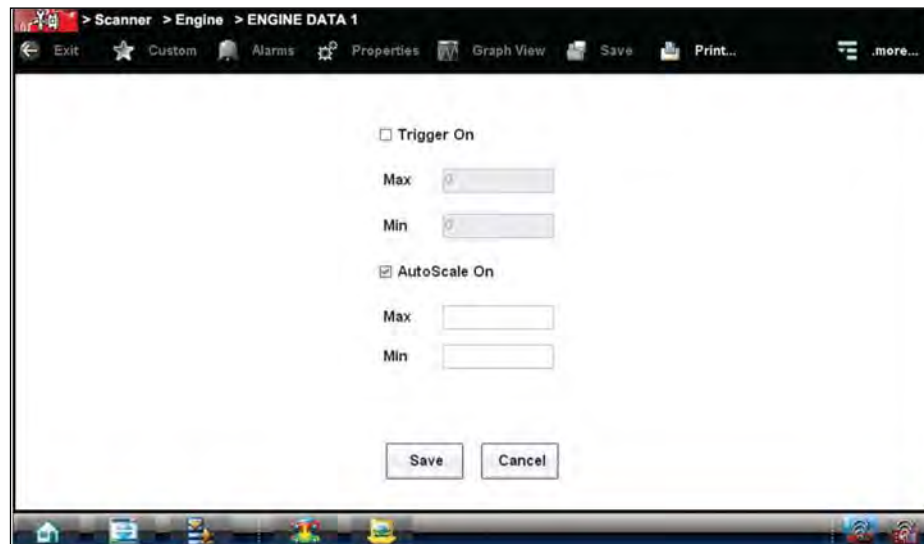

Figure 4-29 Sample manual scale selection
2. From the Graph Properties dialog box (Figure 4-29), select **Auto Scale On**.